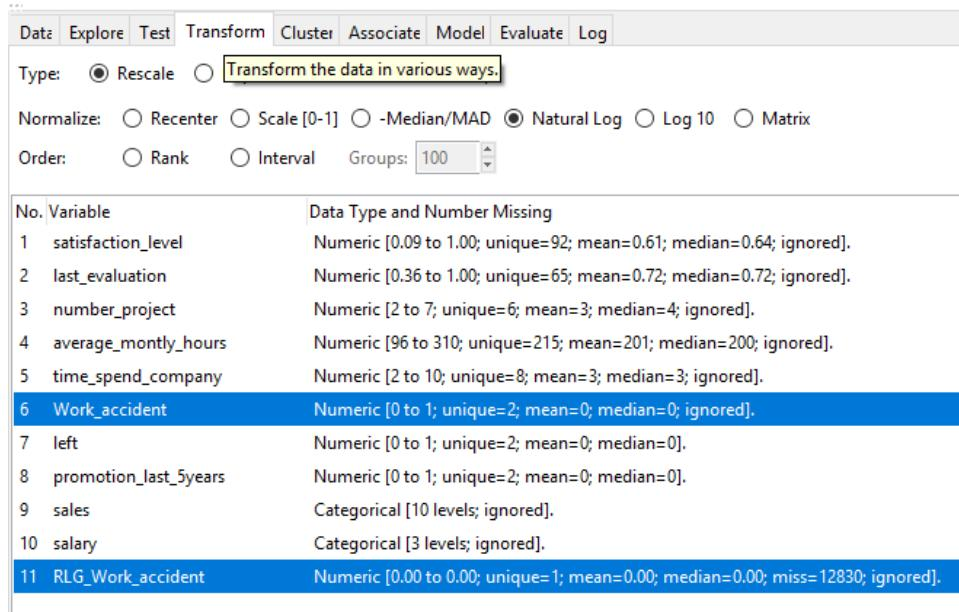

Figure 3
3.3.1 Missing and Inconsistent Values: Missing and inconsistent values problem can be occurred to attributes by the process of transformation and the process of getting data type. For example when get Natural Log on Zero (0) number (see the results below) or negative number, we will have results are missing values or inconsistent with NA values. In this dataset, we have Missing values by the getting of Natural Log, we can see Missing values in dataset by the transformation types (**Figure 3**).